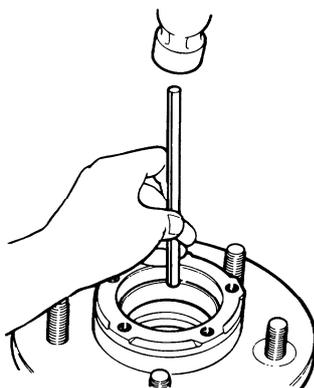

Figure 111 Bearing Cup Installation
- a. Using a suitable drift, install the bearing cones (Figure 111).